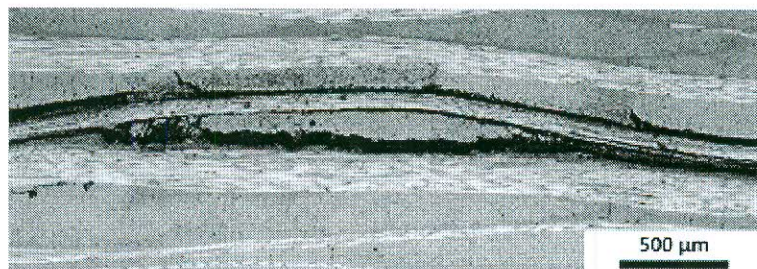

Figure 1: Micrograph of carbon fiber reinforced epoxy after characterization
- (iv) Figure 1 shows the failure modes of cross sections carbon fiber reinforced epoxy after certain testing. Discuss on the type of failure mode, how it occurs and how to prevent the occurrence of this defect in the composite structure.